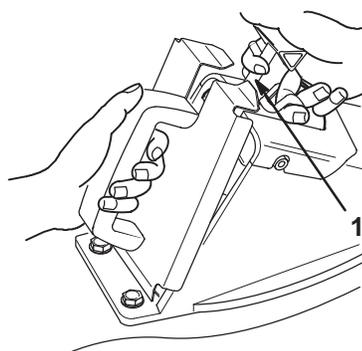

Figure 13
3. Hold the discharge door fully open and insert the plug (Fig. 13).
4. Lift the door latch on the door handle (Fig. 13) and push the top of the plug all the way in while moving the door handle rearward.